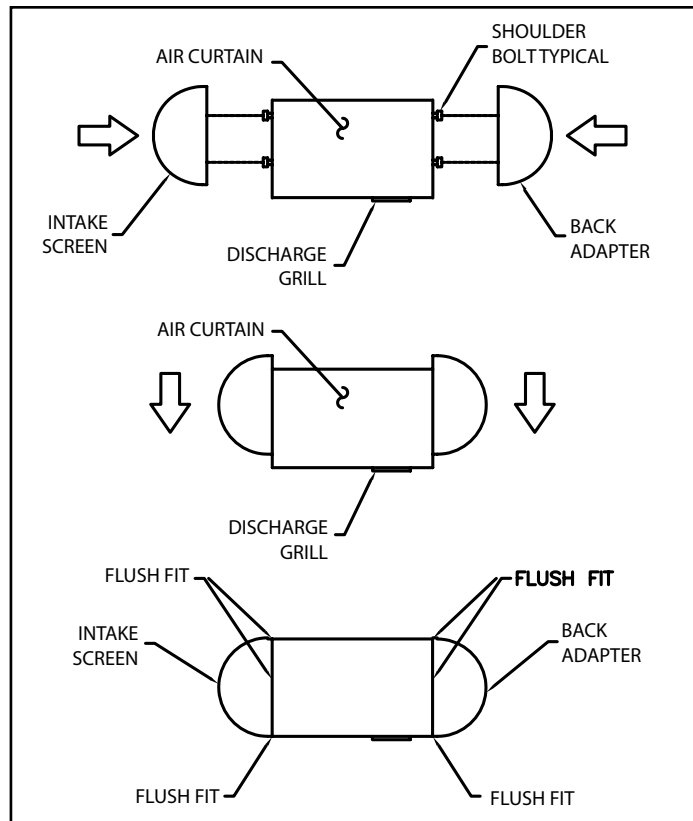

FIGURE 8
- J. Attach the perforated intake grille on the ¼" shoulder bolts of the unit. **See Figure 8.** While holding the grille level with the unit, align the keyhole slots with the shoulder bolts. Press the grille firmly against the unit and push down until the grille rests flush with the bottom of the unit.